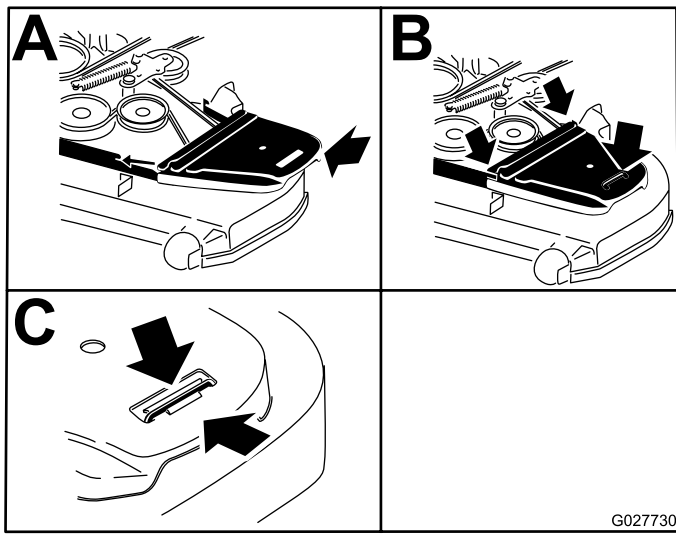

Figure 84
12. Install the belt covers (Figure 84).